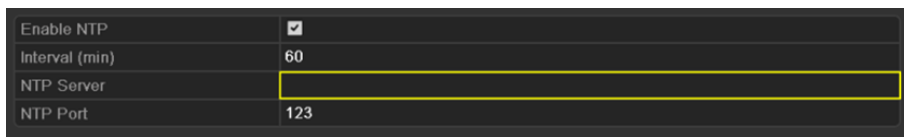

Figure 11-6 NTP Settings Interface
Step 2 Select the **NTP** tab to enter the NTP Settings interface, as shown in Figure 11-6.